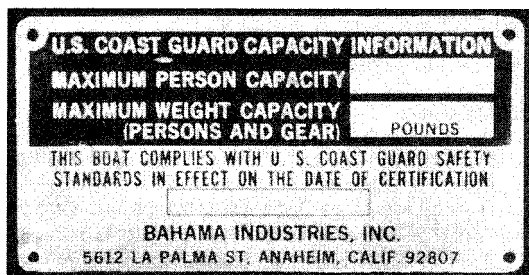

Fig. 4 A U.S. Coast Guard certification plate indicates the amount of occupants and gear appropriate for safe operation of the vessel
◆ See Figure 4
- ◆ See Figure 4